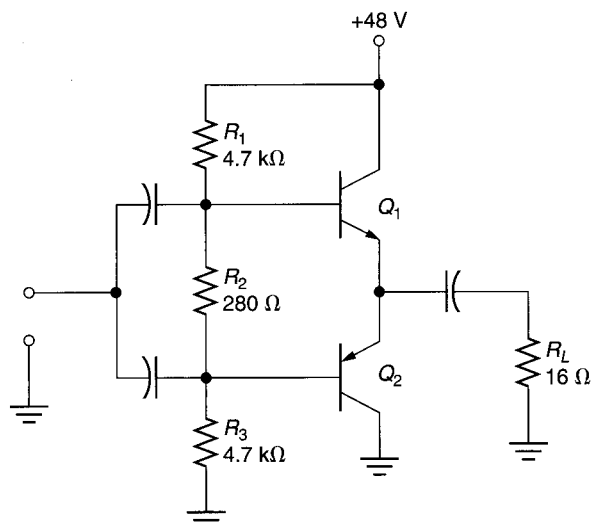

FIGURE 11.54
27. Calculate the value of  $P_S$  for the amplifier in Figure 11.54.
29. Calculate the value of  $P_{L(\max)}$  for the amplifier in Figure 11.54.
31. Calculate the maximum efficiency for the amplifier in Figure 11.54.